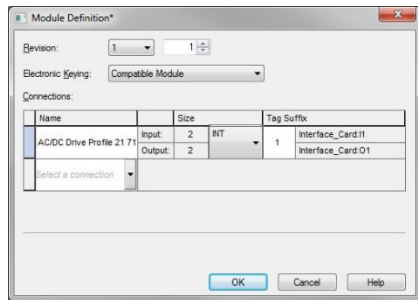

Figure 34: AOP AC/DC Drive Profile Module Definition
- 3) Configure the AC/DC Drive Profile connection. Refer to Figure 34.